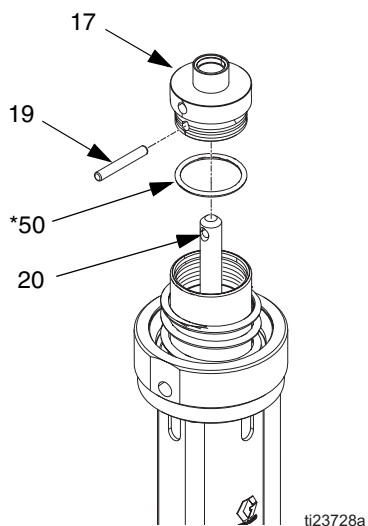

FIG. 14
5. *Series A air motors only:* Remove dowel pin (19) and take piston cap (17) off transfer shaft (20). Discard items 17, 19, 50. See FIG. 14.